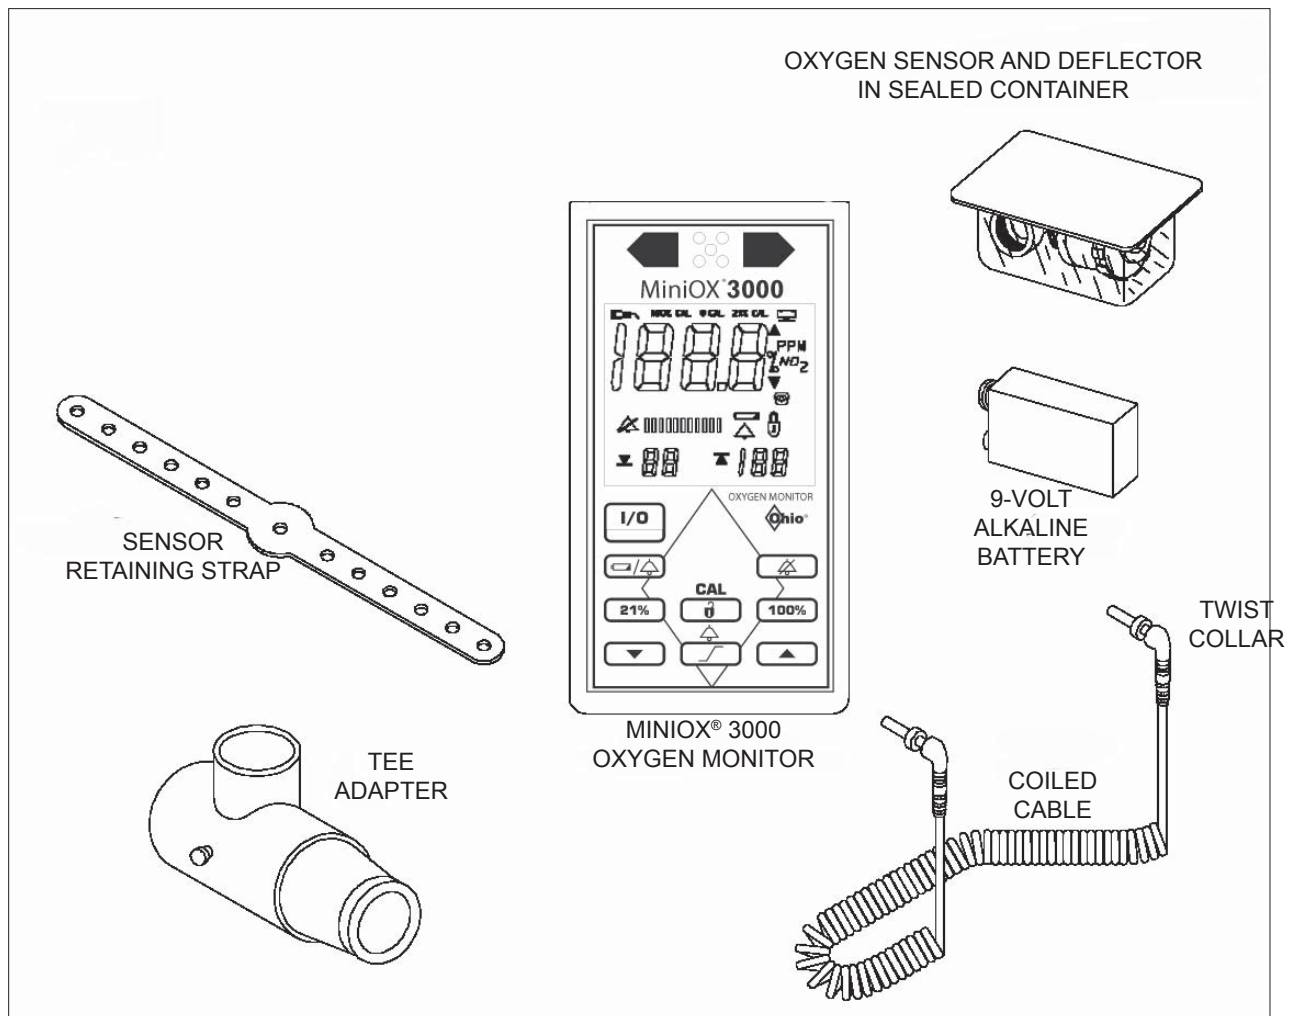

Figure 2-1
1. Verify that you have the following (see Figure 2-1):